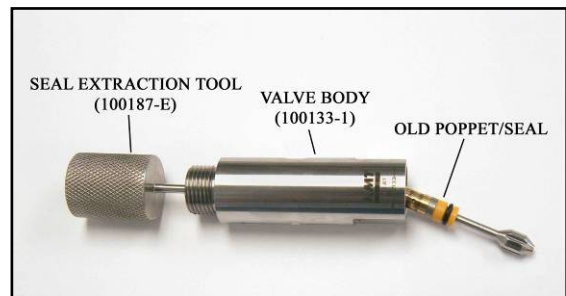

FIGURE 3
9. Slide the Seal Extraction Tool (100187-E) into the externally threaded end of the Valve Body (100133-1), being careful not to damage the Oil Seal. Press on the Seal Extraction Tool to remove the Poppet, Seal, Buttress, and Hoop Seal. Discard at this time. **See Figure 3.**